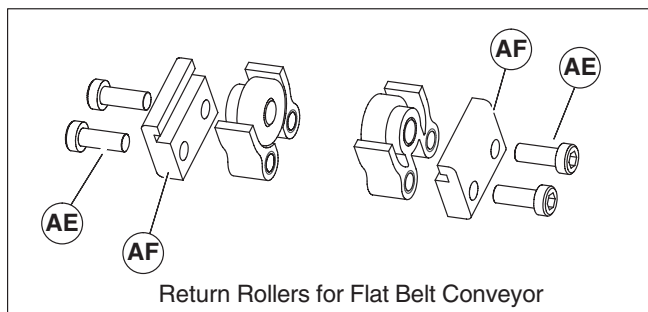

Figure 11
1. Locate return rollers. Exploded views shown in Figure 11.
2. Remove screws (Figure 11, item AE) and clips (AF) from roller assembly.